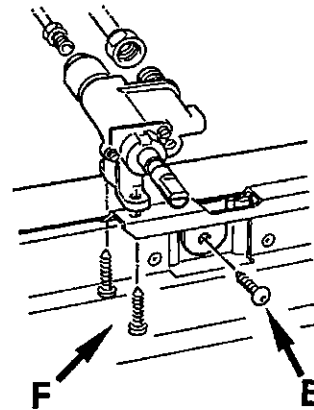

fig. 35
- Lift the mounting support and unscrew screws "E" (Fig. 35)